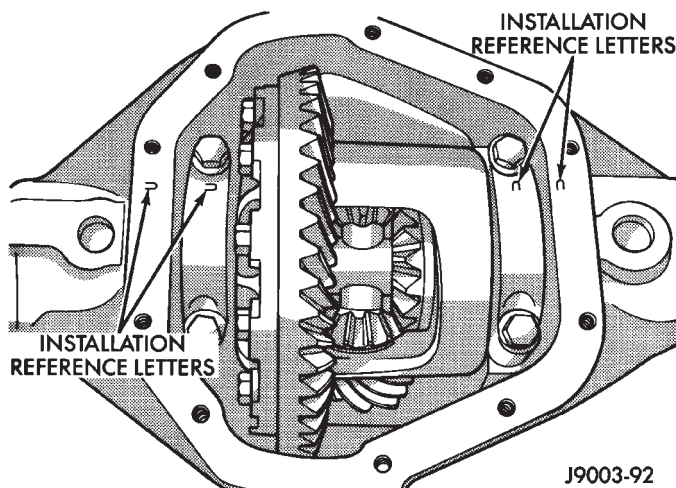
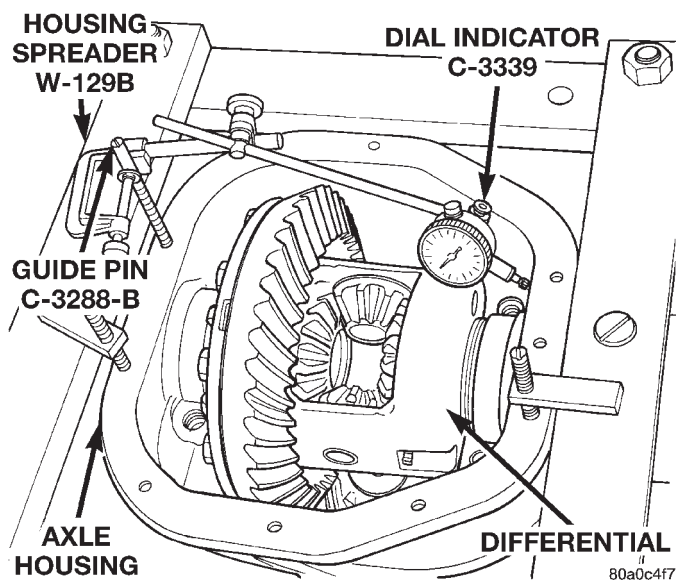

Fig. 26 Bearing Cap Identification
Fig. 27 Spread Differential Housing
(1) Remove axle shafts.
(2) Note the orientation of the installation reference letters stamped on the bearing caps and housing machined sealing surface (Fig. 26).
(3) Remove the differential bearing caps.
(4) Position Spreader W-129-B with the tool dowel pins seated in the locating holes (Fig. 27).
(6) Install a pilot stud at the left side of the differential housing. Attach dial indicator to housing pilot stud. Load the indicator plunger against the opposite side of the housing (Fig. 27) and zero the indicator.
(7) Separate the housing enough to remove the case from the housing. Measure the distance with the dial indicator (Fig. 27).
(1) Position Spreader W-129-B with the tool dowel pins seated in the locating holes (Fig. 27). Install the hold down clamps and tighten the tool turnbuckle finger-tight.
(2) Install a pilot stud at the left side of the differential housing. Attach dial indicator to housing pilot stud. Load the indicator plunger against the opposite side of the housing (Fig. 27) and zero the indicator.
(3) Separate the housing enough to install the case in the housing. Measure the distance with the dial indicator (Fig. 27).